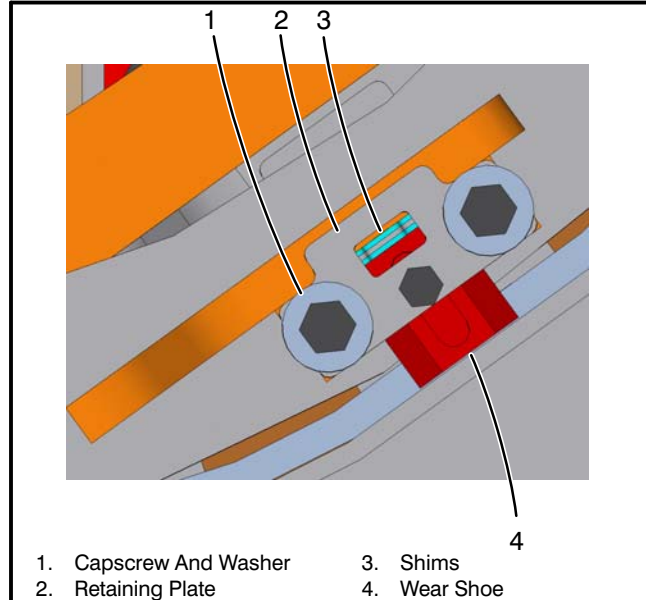

Figure 3-20
- c. Rear Bottom Side Wear Shoes (Refer to Figure 3-16 and Figure 3-20)